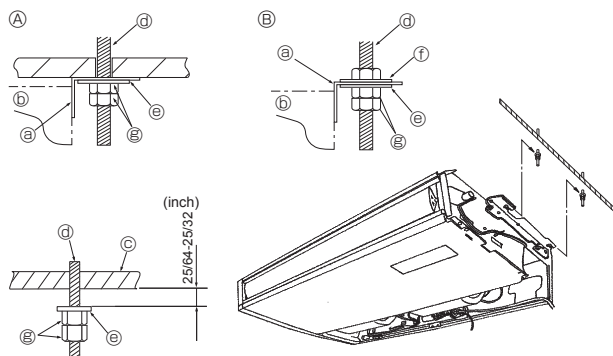

Fig. 3-6
- ② Forcing open the intake grille or opening it to an angle of more than 120° may damage the hinges.
3.3. Installing the indoor unit (Fig. 3-6)